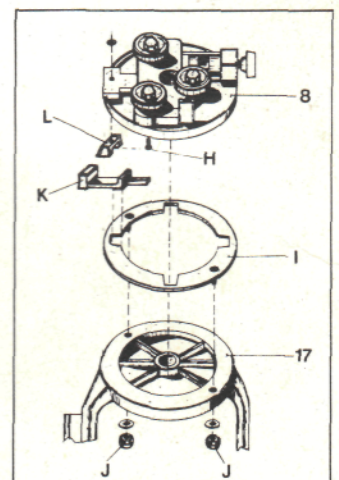

Fig. 13
The illustration (Fig. 13) shows the components of the yoke assembly. The precise alignment of rollerhead (8) with yoke (17) is made possible by collar (I) which is fixed to the yoke by the locking nuts (J).
- (i) Firstly, grasp yoke in both hands and check it for movement left or right, if there is movement tighten nut (H) which increases the friction between the rip locating slide bar (K) and nylon block (L).
- (ii) Then, if the blade is still not parallel to the square, release the yoke clamp (10) and loosen the lock nuts (J) (Fig. 13/13a) and turn yoke slightly to left or right until the blade is in fact parallel to the square and therefore also parallel to the arm tracks. Then tighten all nuts.